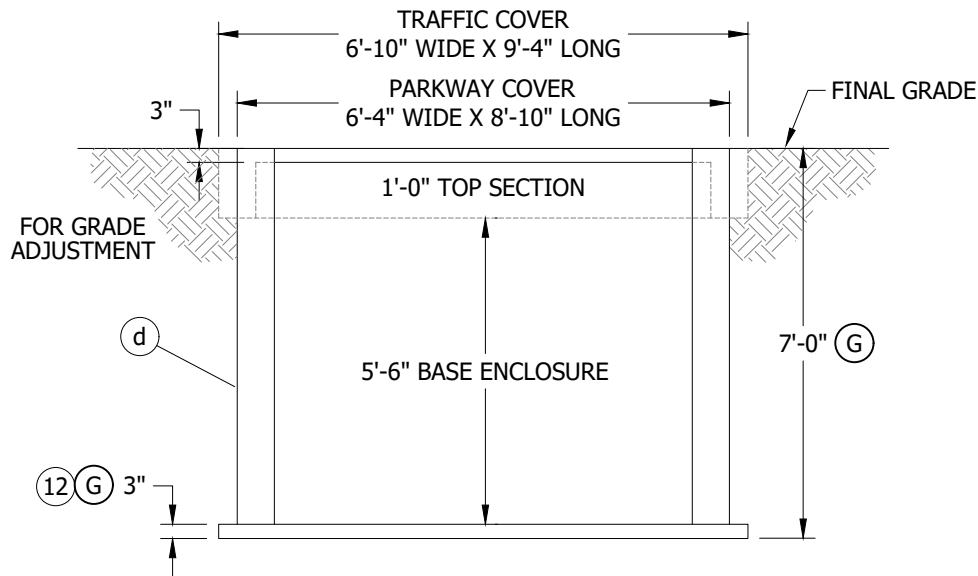

FIGURE 5
- B. AFTER THE LOCATION IS ESTABLISHED MARK OUT DIMENSIONS FOR THE EXCAVATION WIDTH, LENGTH AND DEPTH PER FIGURE 5. THE WIDTH AND LENGTH DIMENSIONS GIVEN, ALLOW AN EXTRA 8 INCHES FOR SETTING THE SUBSTRUCTURE.
- (G) EXCAVATION DEPTH ALLOWS 3 INCHES FOR ADJUSTMENT TO FINAL GRADE AND AN ADDITIONAL 3 INCHES FOR REPLACEMENT OF GRAVEL AS BASE SUPPORT.